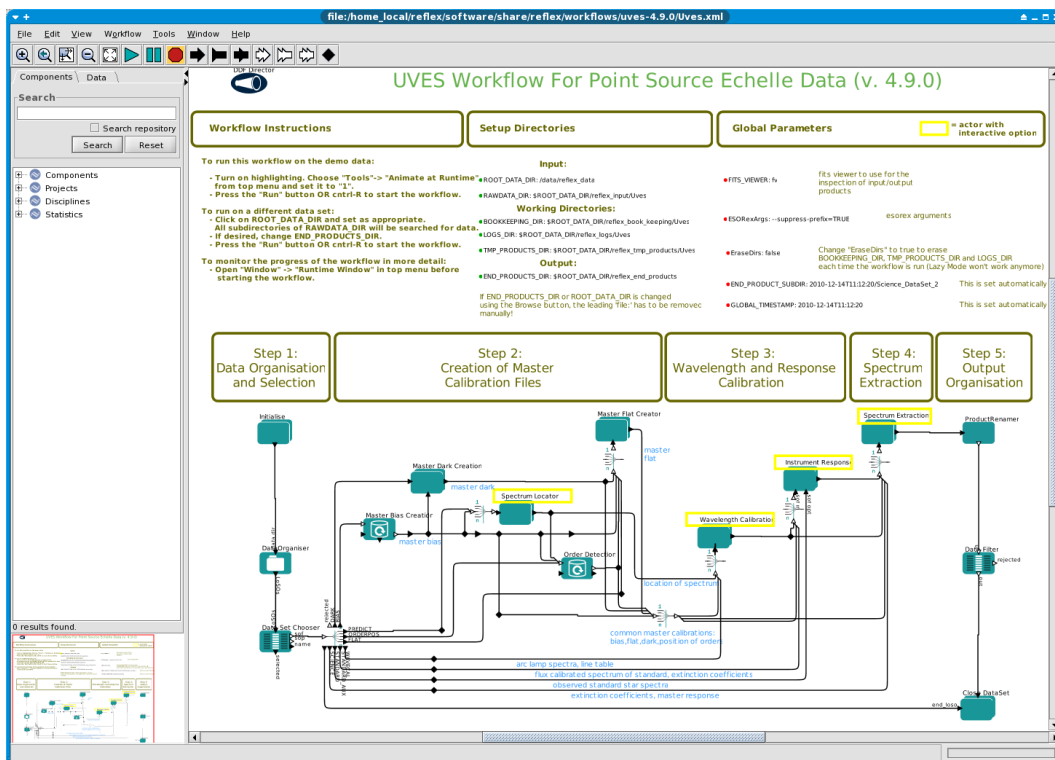

Figure 2: *UVES workflow general layout.*
2. Now open the UVES workflow by clicking on `File -> Open File`, selecting the file `Uves.xml` in the file browser³, and clicking `Open` (this file is located in `<install_dir>/share/reflex/workflows/uves-4.9.0/Uves.xml` in the pipeline installation). You will be presented with the workflow canvas shown in Figure 2. Note that the workflow will appear as a canvas in a new window.
The UVES workflow canvas is organised into a number of areas (see Figure 2). From top-left to top-right you will find general workflow instructions, directory parameters and global parameters. In the middle row you will find five green boxes describing the workflow general processing steps in order from left to right, and below this the workflow actors themselves are organised as per the workflow general steps.
The workflow canvas displays a number of parameters that may be set by the user (see Figure 2). Under “Setup Directories” the user is only required to set the `ROOT_DATA_DIR` to the working directory for the data set(s) to be reduced, which, by default, is set to the directory containing the standard UVES test data. Raw data should be stored in a subdirectory of `ROOT_DATA_DIR`, defined by the parameter `RAWDATA_DIR`, which is recursively scanned by the Data Organiser actor for input raw data. If required, the user may edit the directories `BOOKKEEPING_DIR`, `LOGS_DIR`, `TMP_PRODUCTS_DIR`, and `END_PRODUCTS_DIR`, which correspond to the directories where book-keeping files, logs, temporary products and end products are stored, respectively (see the Reflex User Manual for further details; Forchì 2010).